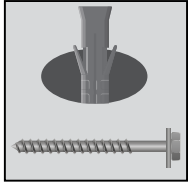

Figure 14.5
7. Place the safe back into position lined up over the hole and secure in place using the provided mounting bolt (Figure 14.5).